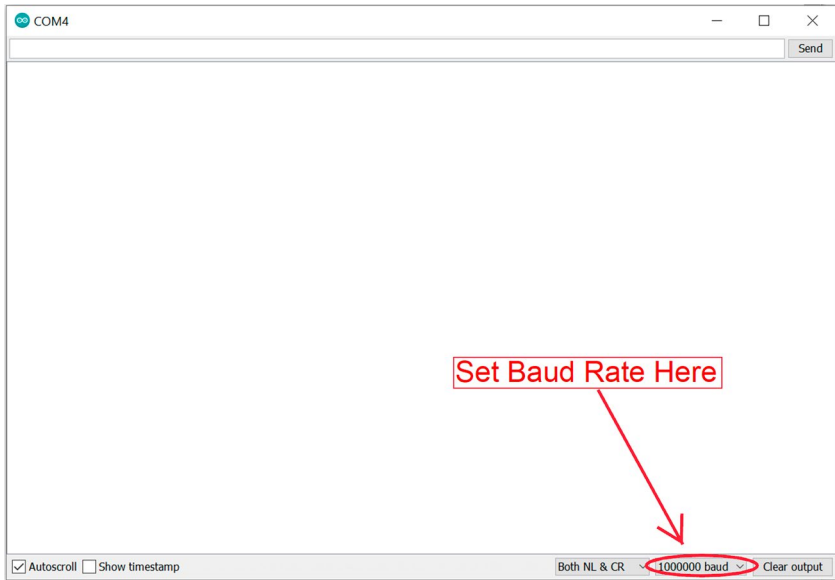

Figure 4. Select Baud Rate
11. Set baud rate to 1M at the bottom of the Serial Monitor window as shown in Figure 4.